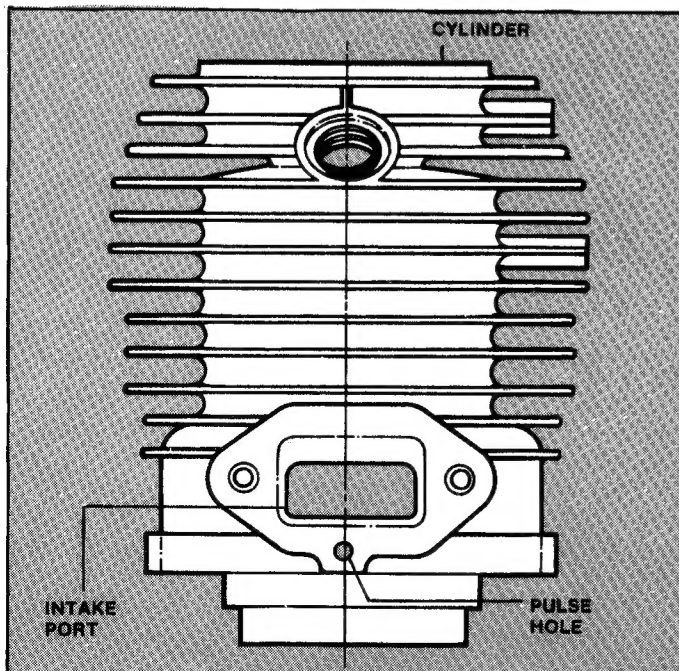

FIGURE 2.12
- C. The cylinder's carburetor mounting surface (intake) is provided with an air hole (pulse hole) which transmits the pressure variation in the crankcase to the diaphragm pump in the carburetor. This pulse hole is used **ONLY** for engines with a diaphragm valve type carburetor (D Type). It is **NOT** to be used with a float valve type carburetor. See Figure 2.12.